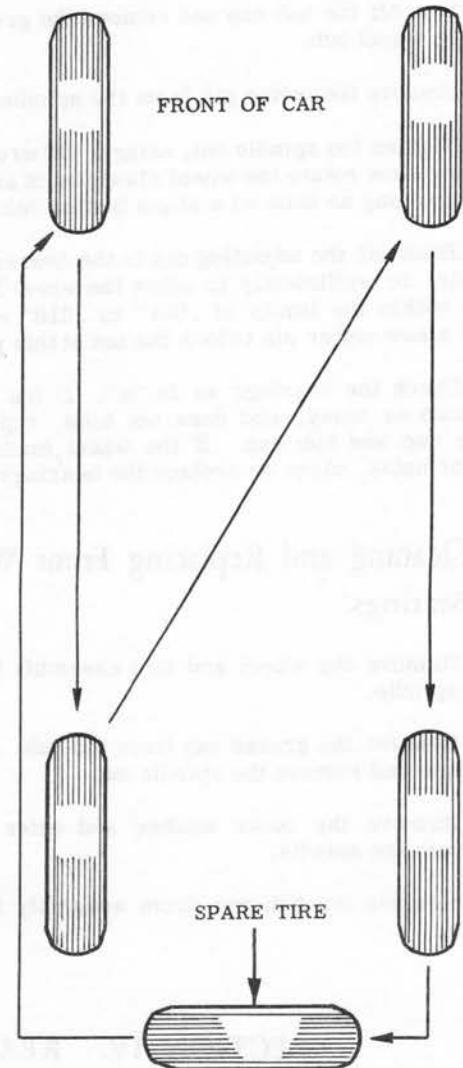

Fig. 1 - Wheel Rotation
b. Rotate the wheels after each 5,000 miles of service. See Fig. 1. Balance the wheels after rotating.